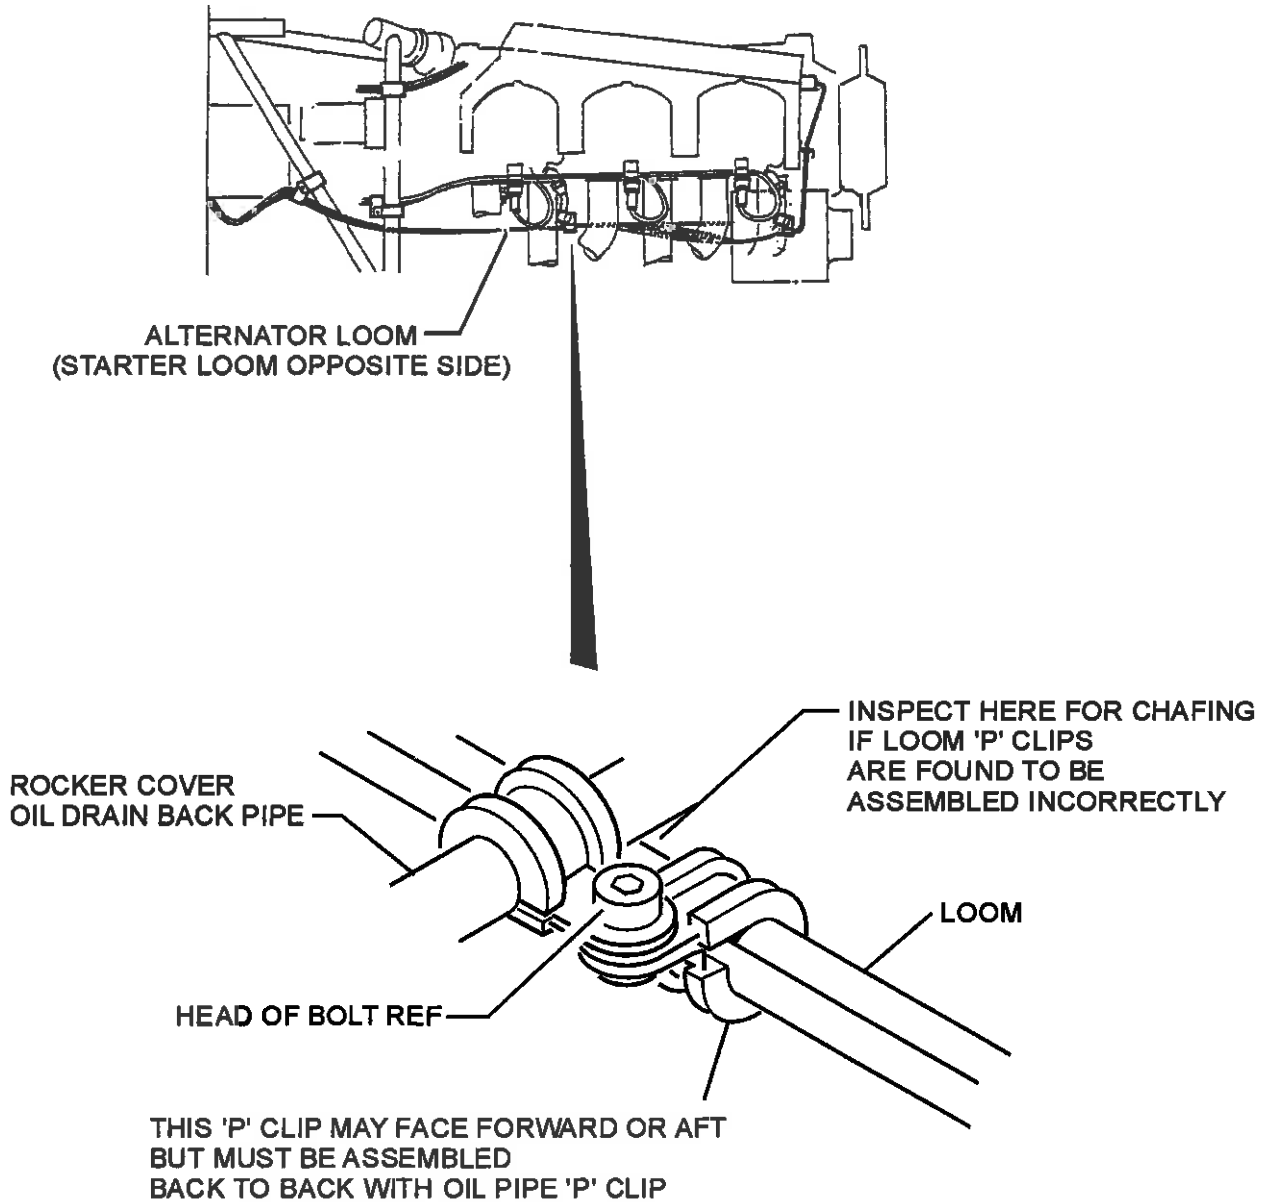

FIGURE 1
3. Inspect both the alternator wiring loom starboard side and starter loom port side of engine for correct 'p' clip assembly, ref. Figure 1. Ensure loom is positioned away from all engine components and structure.
**Note:** On T67A, looms may not have been clipped to the oil drain back pipe. If cables are seen to be in contact with the engine, then apply 'p' clipping as per Figure 1 detail as required.
4. Should 'p' clip not be as Figure 1 then disassemble. Inspect oil drain back pipe for chaffing: if damaged replace pipe. Check looms for chafing. If looms lightly chafed, repair by re-insulating with heatshrinkable sleeving or similar permanent repair. If chafing is more severe and wire conductor is damaged, rectify by replacing affected wire.
5. Assemble 'p' clip and loom back to pipe as per Figure 1.